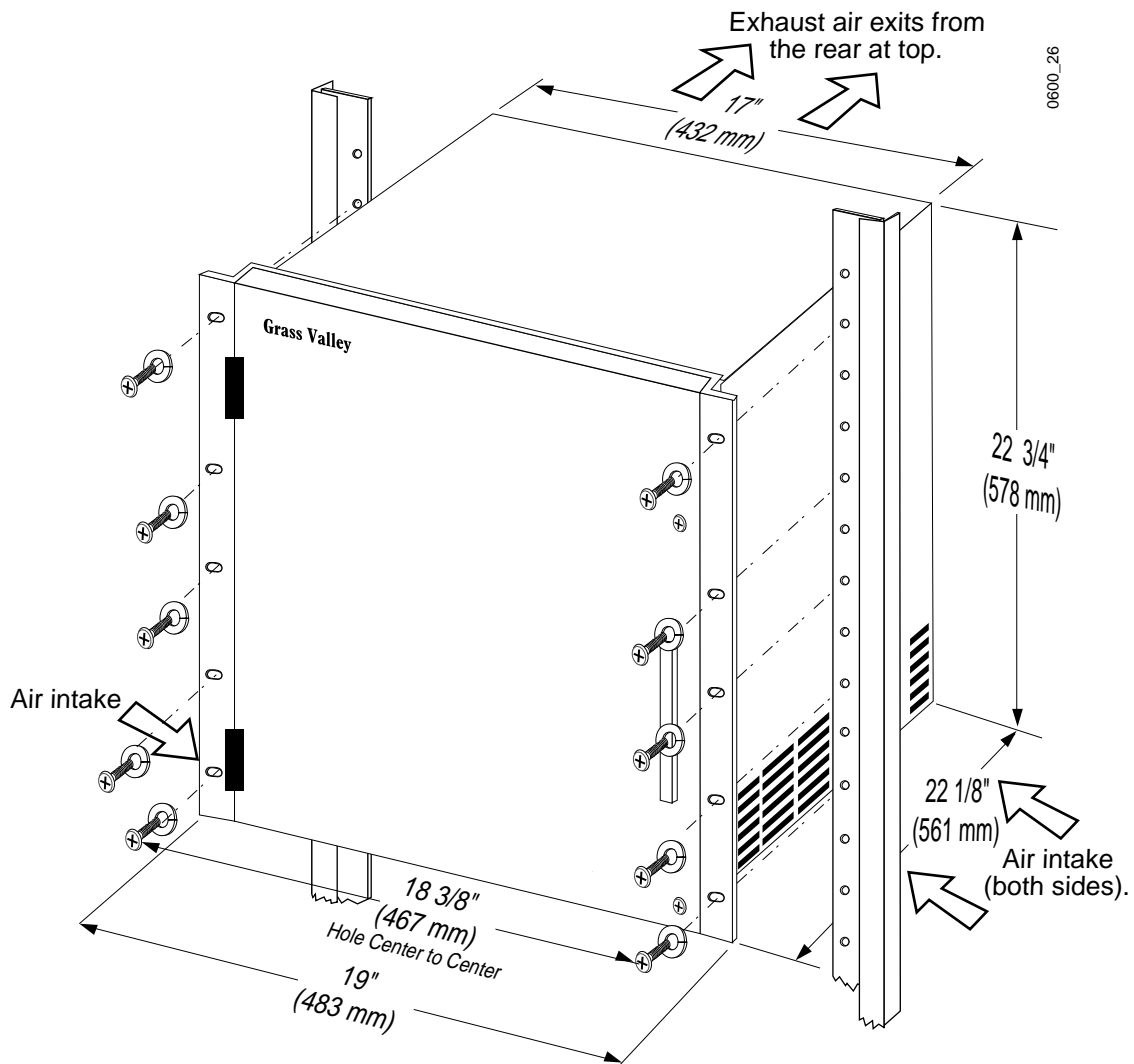

Figure 2-2. Video Processor Frame Installation
1. Mount the frame in a standard 19-inch equipment rack using the bolts recommended by the rack manufacturer (Figure 2-2).